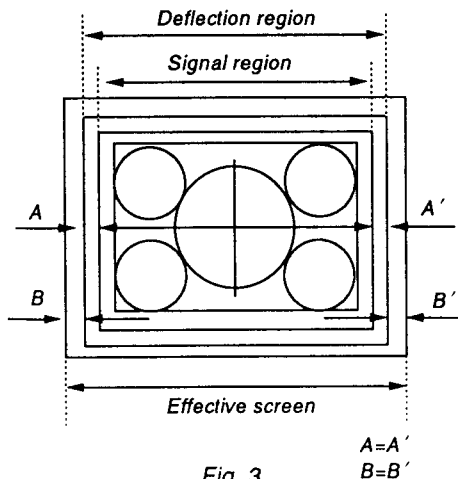

Fig. 3
7. Adjust **[60 VIDEO PHASE]** so that the signal region comes to the center ( $A=A'$ ) of the deflection region. (Fig. 3)